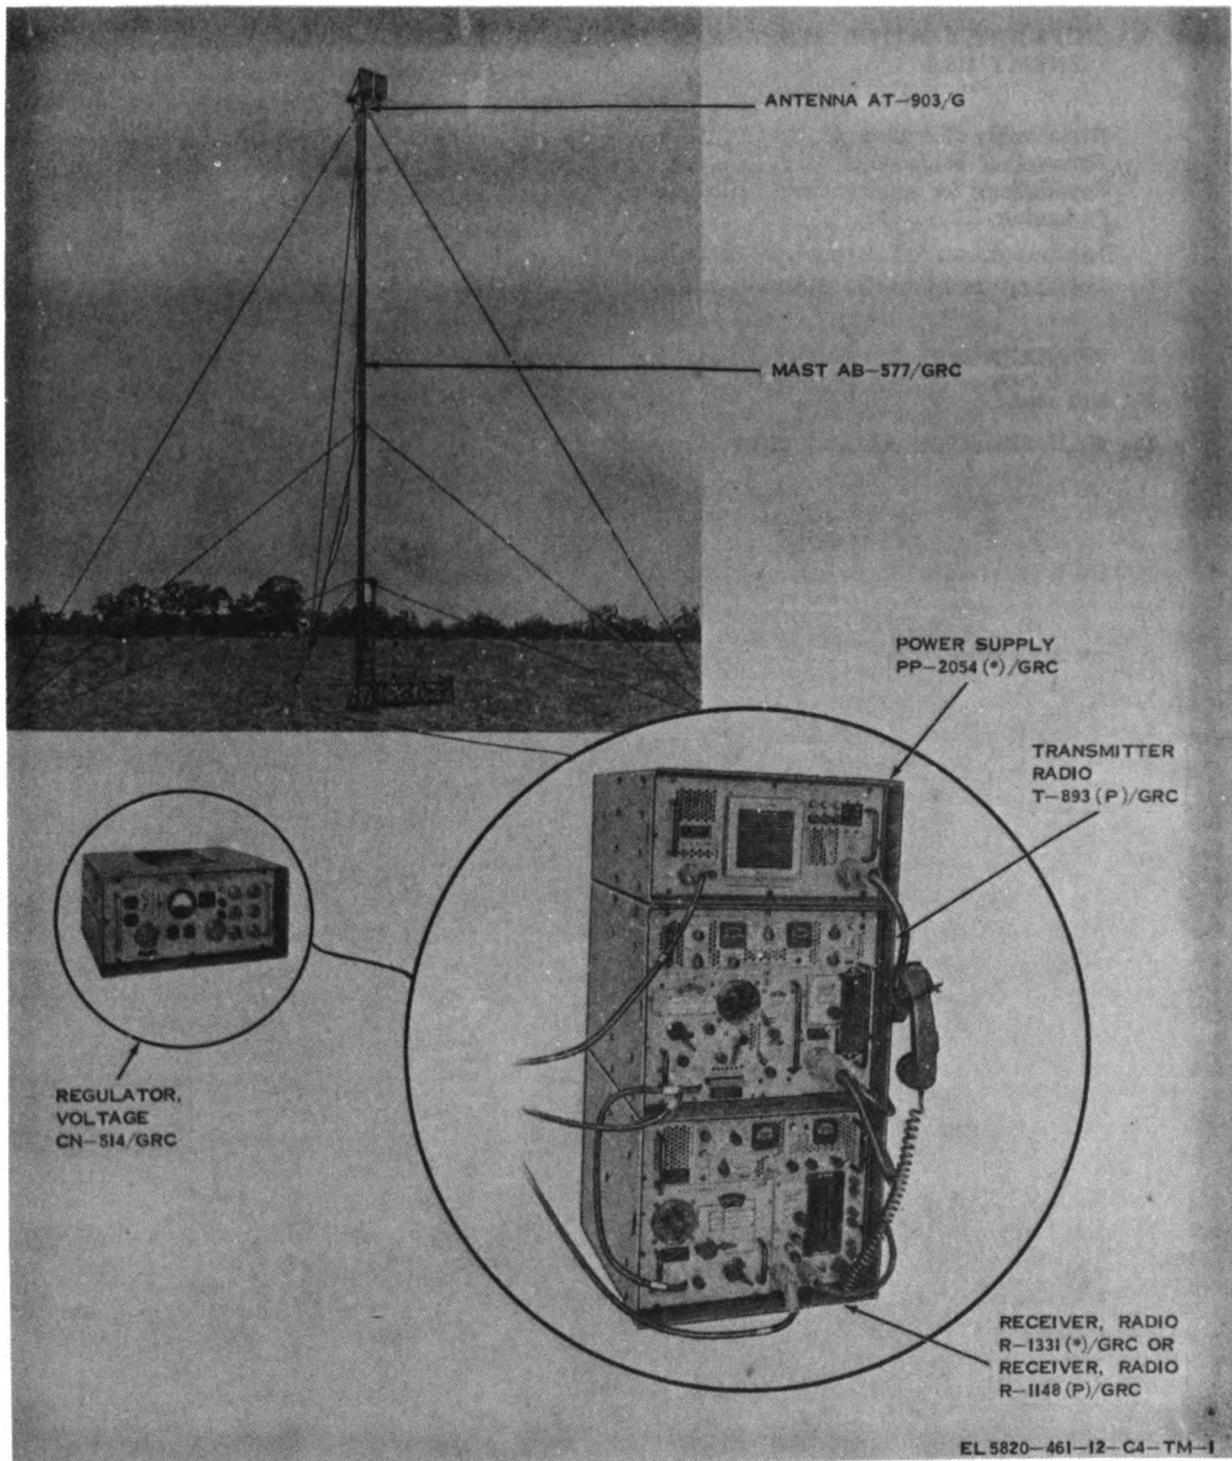

Figure 1-1. Radio Set AN/GRC-50(\*)XV in operation.
b. Installation and maintenance of Mast AB-577/GRC (figs. 1-1 and 1-8) are provided in TM 11-5820-538-12 which also includes information on the use of Extension Kit MK-806/GRC which is used to extend the height of the antenna to another 25 feet above the 50-foot height of the AB-577/GRC.
(1) Radio Set AN/GRC-50(\*)/V applies to all configurations of the radio set: AN/GRC-50(V)1, 2, 3, 4, and 5 and AN/GRC-50A(V)1, 2, 3, 4, 5, 6, 7, 8, 9, 10, and 11.
(2) Amplifier-Converter AM-1955(\*)/GRC applies to Amplifier-Converters AM-1955/GRC, AM-1955A/GRC, and AM-1955B/GRC (para 1-14d).
(3) Amplifier-Converter AM-1956(\*)/GRC applies to Amplifier-Converters AM-1956/GRC, AM-1956A/GRC, and AM-1956B/GRC (para 1-14d).
(4) Amplifier-Oscillator AM-1958(\*)/GRC applies to Amplifier-Oscillators AM-1958/GRC and AM-1958A/GRC (para 1-14e).